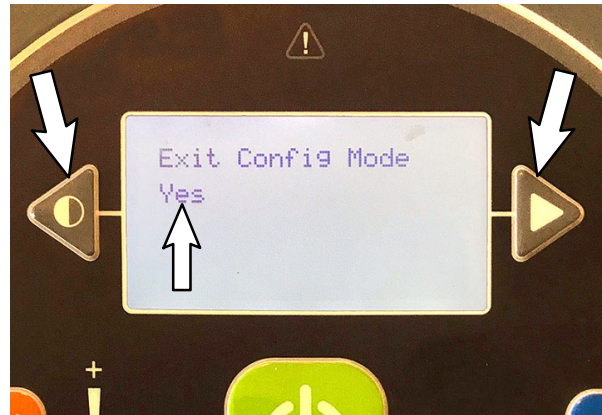

FIG. 39
12. Press either the right arrow button or left arrow button to scroll to Exit Config Mode. Yes should appear under the top line of text. Press the main scrub brush pressure button. (Fig. 39)